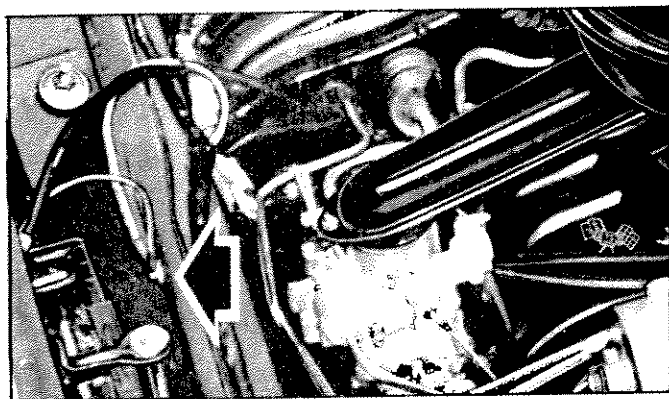

Fig. 43—Electrical Disconnect
- Battery positive cable terminal and 10 gauge red wire at terminal on body side rail (fig. 43).